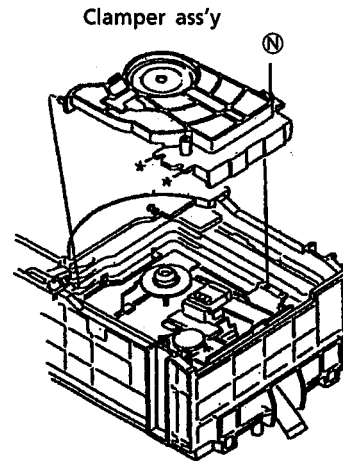

Fig.28
5. Remove a screw ⑤securing center of the clamber ass'y. (See Fig. 28)